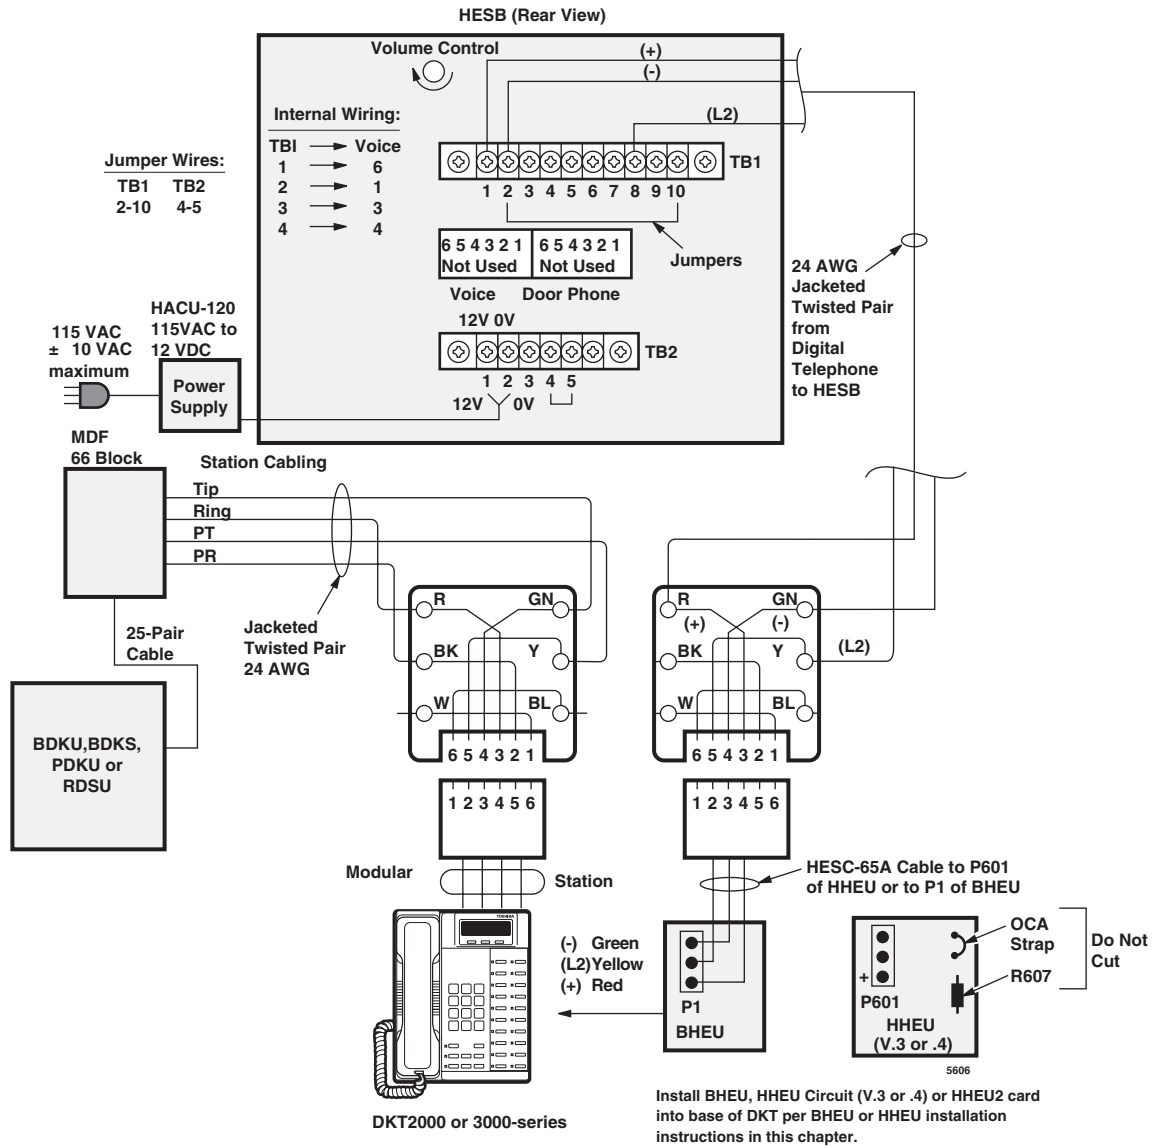

Figure 12-21 Wiring the Telephone External Ringer with HESB Interface
1. Connect a jumper between terminals 2 and 10 on the HESB TB1 terminal block (Figure 12-21).
7. Connect station wiring (see Figure 12-21).